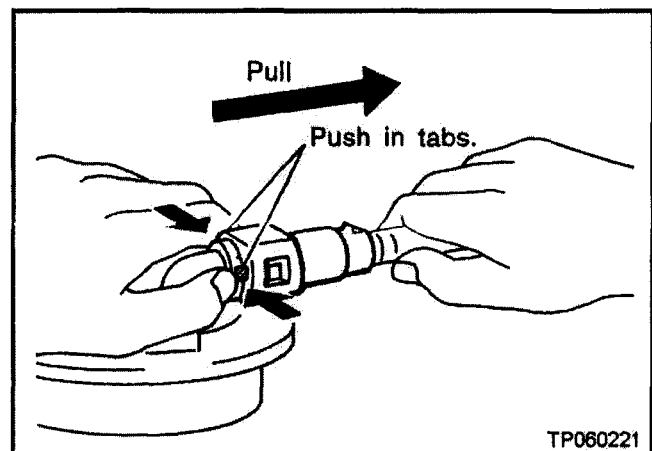

Figure 9
- Push in on the tabs and pull off the fuel feed tube as shown in Figure 9.